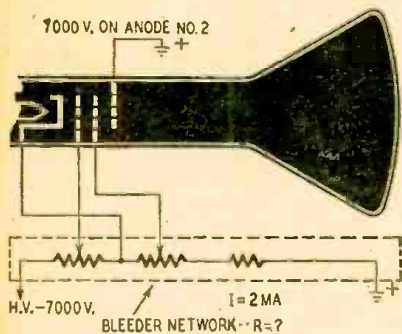

Fig. 1—A safe way to check high voltages.
**K**NOWLEDGE of mathematics is useful in servicing electronic apparatus as well as in designing it. For example, a technician, servicing a television receiver using a 12-inch cathode-ray tube, finds the intensity of the image too low. He suspects a short circuit in the high-voltage supply. If the tube used is a 12AP4 at 7,000 volts on the second anode, with a bleeder network current of 2 ma, what resistance value across the bleeder network should he expect to find? (Fig. 1).